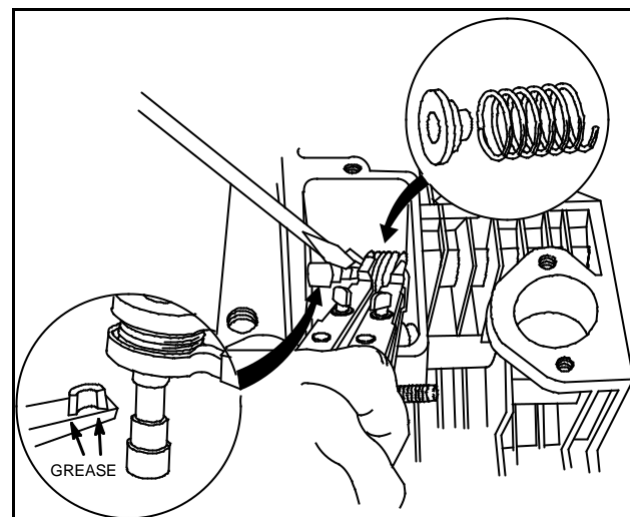

Fig. 20 – Installing Exhaust Valve
3. Hold spring against cylinder head side of valve tappet chamber and insert split valve keepers in valve stem retainer grooves, Fig. 20.
Some models use three (3) longer head bolts located around the exhaust valve area. If a short bolt is used in the wrong position, it may not engage enough threads. A long bolt in the wrong position may bottom on fins, either breaking the fins or leaving the cylinder head loose. Install long bolts around the exhaust valve area of the cylinder head, torque sequence 1, 3, 7, Fig. 20.